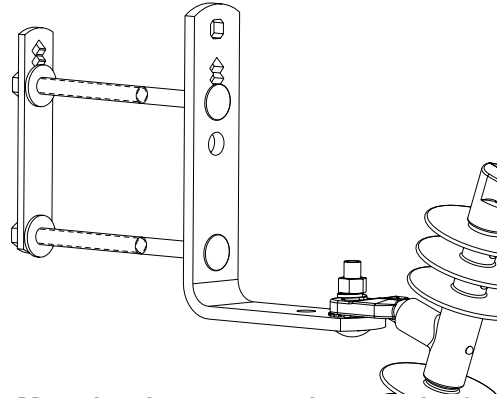

Figure 3. Mounting the cutout on the mounting bracket.
1. Securely attach the mounting bracket supplied with switch to the crossarm or pole per standard procedure. Assembly of cross-arm mounting bracket to cutout disconnect switch shown in Figure 3.